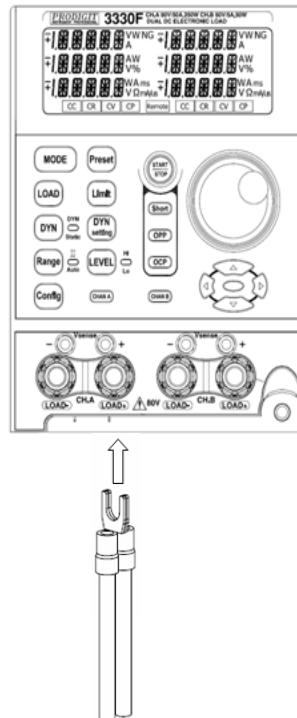

Fig 3-3 Hook Terminal Y type large size terminal connections
- 3.3.2 **Spade terminals:** The spade terminal provides a good contact to the binding post. It is recommended to use anytime. The maximum wire gage 10 can be used in this Application as show Fig3-3 and Table 3-6.